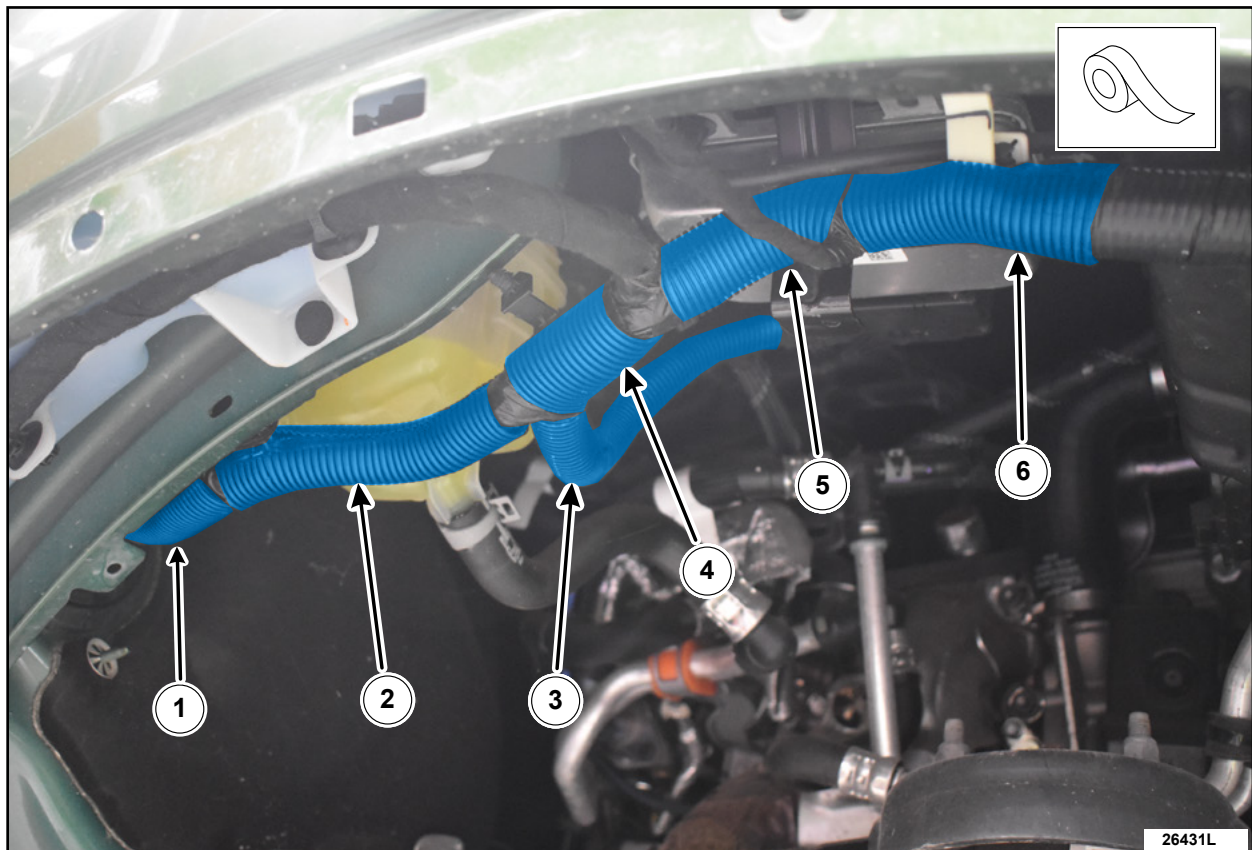

FIGURE 10
- Vehicles built **on** or **after** Jan 15, 2025 - Only install 1 piece of 3.5 in (8.89 cm) tubing in location (1) on the wire harness. See Figure 10.
- Vehicles built before Jan 15, 2025 - All six pieces are required for this repair. See Figure 10.
19. Install the convolute tubing over the inspected areas of the wire harness, then secure it in place using Coroplast® tape. See Figure 10.